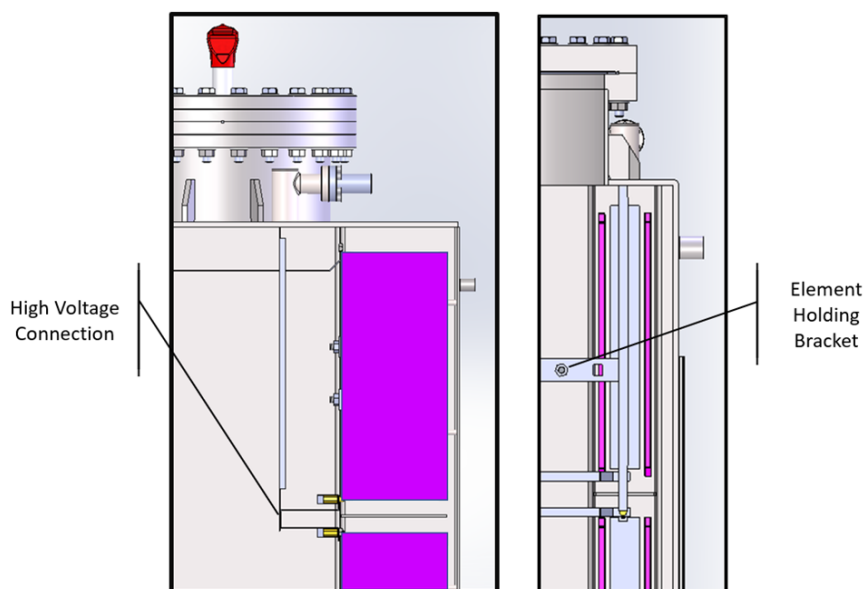

Figure 47 Pumping element replacement
- 5** Remove the internal high-voltage connection (see Figure 47).
- 6** Remove the element holding brackets (see Figure 47).
- 9** Reposition the new pumping element inside the pump and lock in place with the holding brackets (see Figure 47).